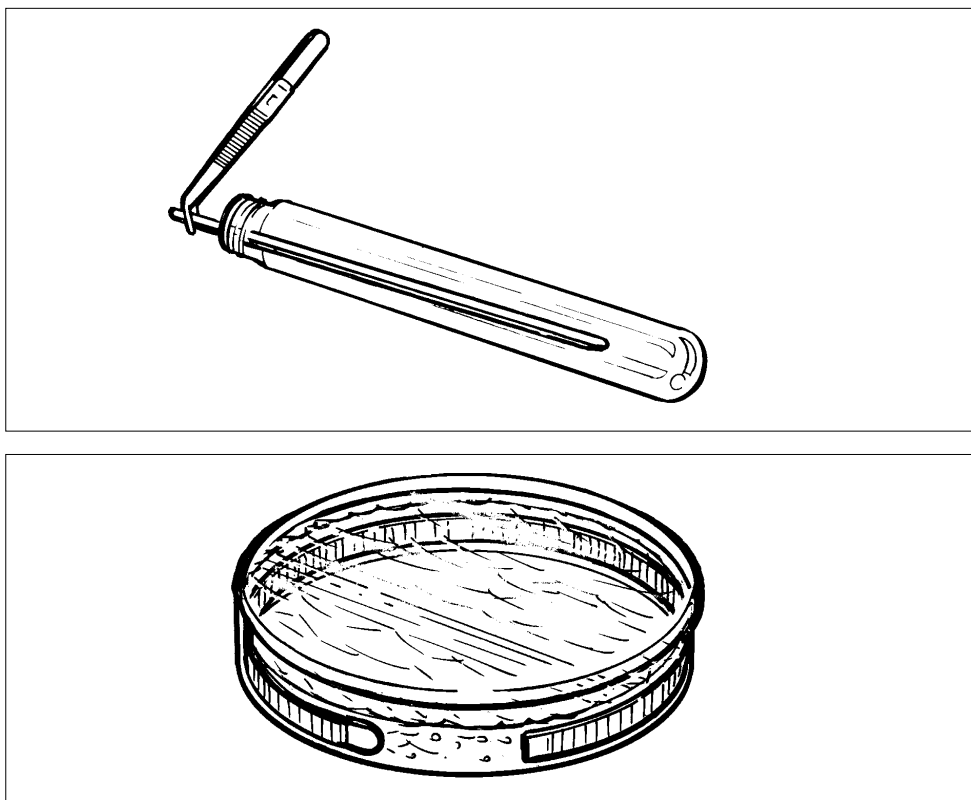

Fig. 21.
- Place the strips into individual test tubes, 20 ml, and add 15 ml of equilibration solution No.1 to each tube (Fig. 21). For the longer strips it is convenient to use a petri dish. Place the strip with the support film towards the wall of the test tube or petri dish.